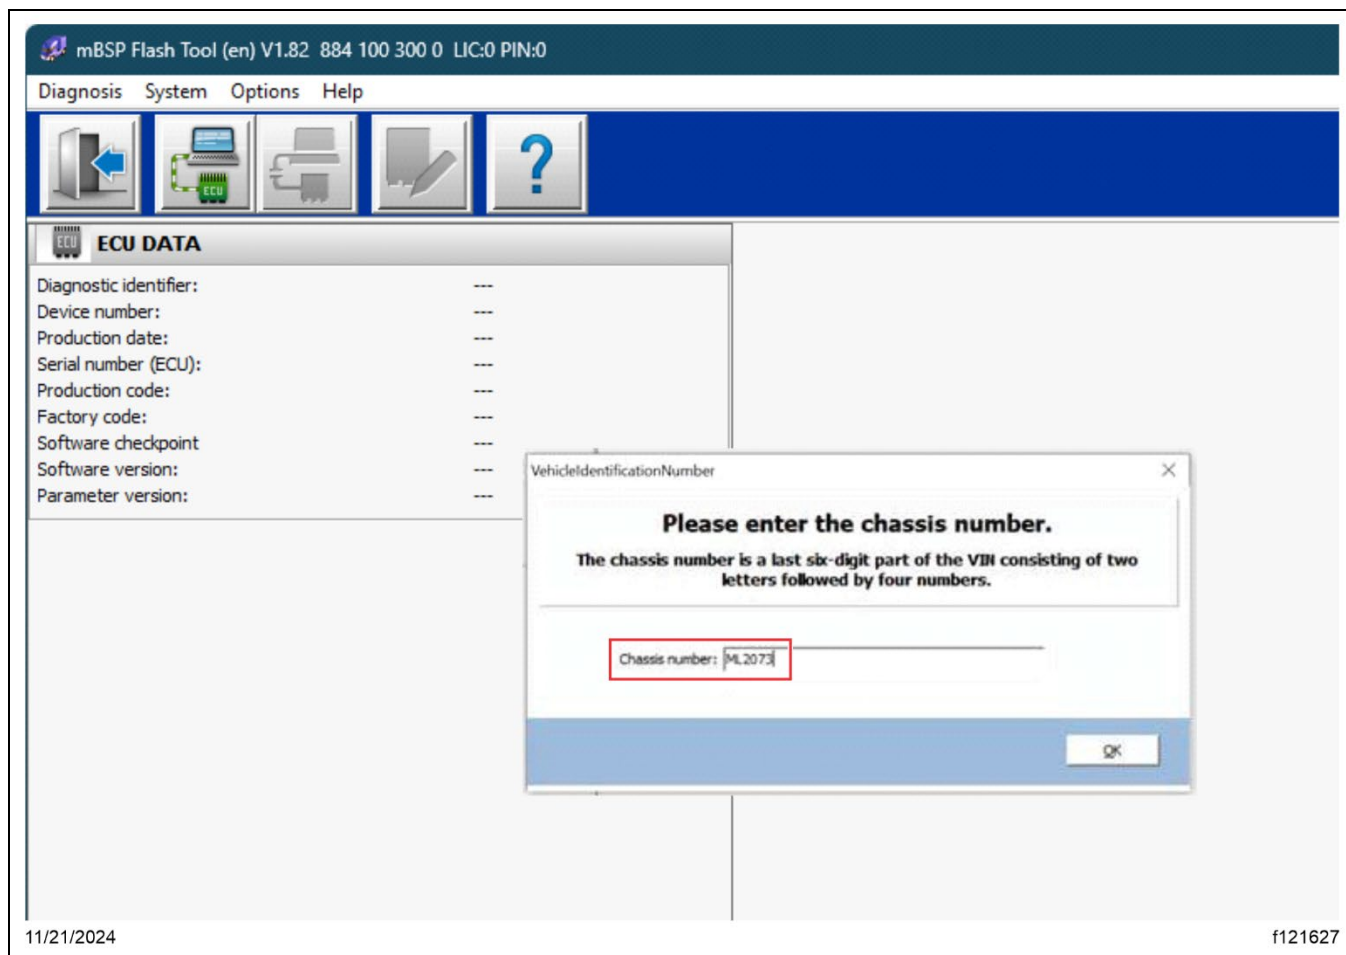

Fig. 50, Entering the Chassis Number
13. A window will now open, requesting the chassis number to be entered. The chassis number is the last six characters of the VIN that consists of two letters followed by four numbers (also known as serial number). Enter the vehicle chassis number. See Fig. 50.